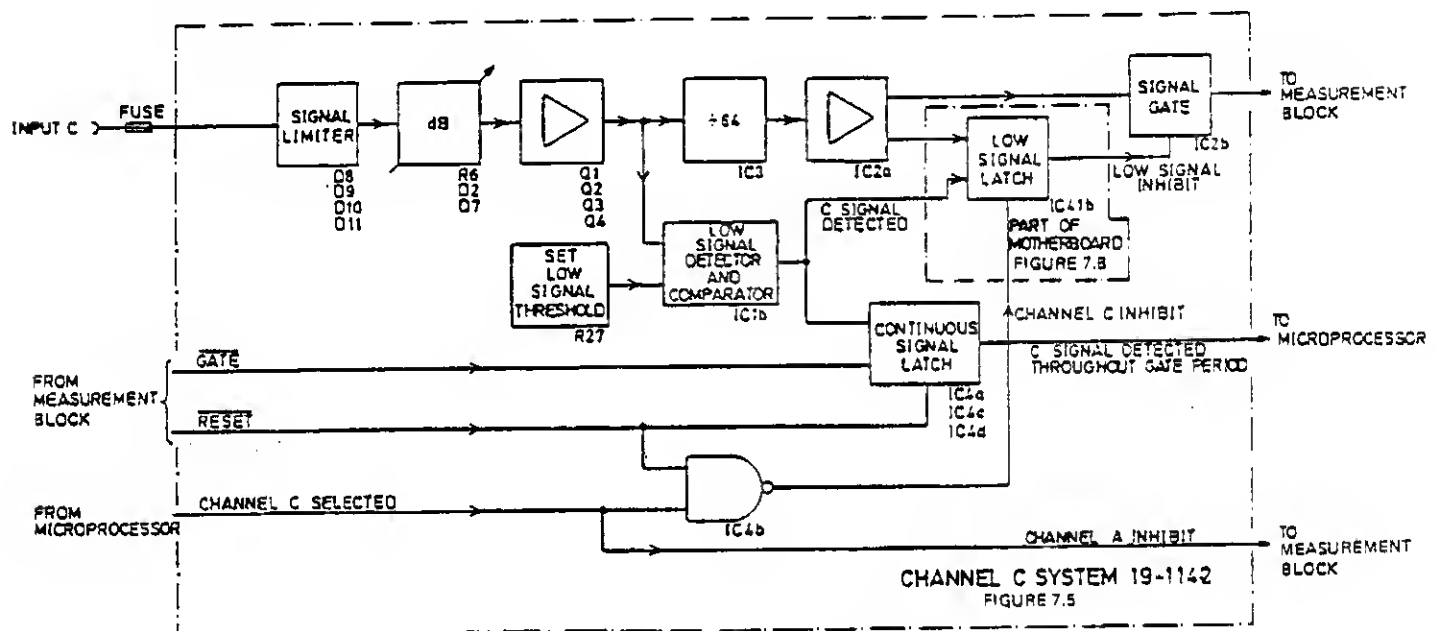

Figure 5.3 - Channel C Block Diagram
5.3.2.1.1 Refer to the block diagram given in Figure 5.3. Channel C processes the signal applied at the Channel C input and feeds it to the measurement block.